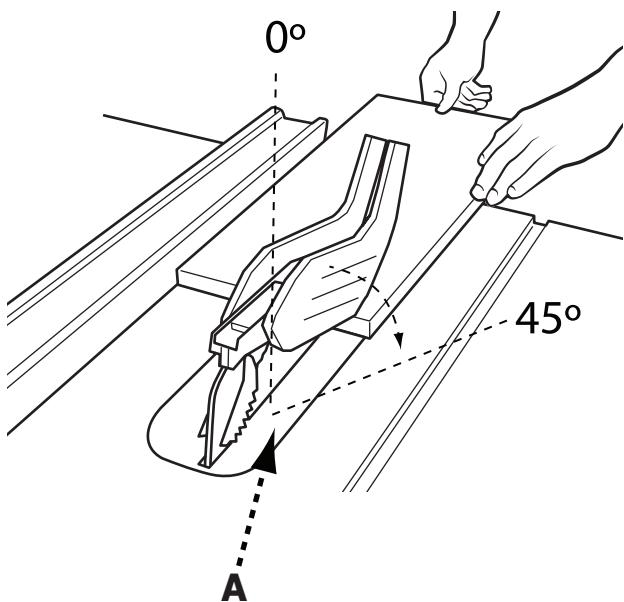

FIGURE 24
Bevel ripping is the same as ripping except the bevel angle (A) is set to an angle other than  $0^\circ$ . When making a bevel rip cut, place the fence on the right side of the blade so that the blade is tilted away from the fence and hands.(FIGURE 24).